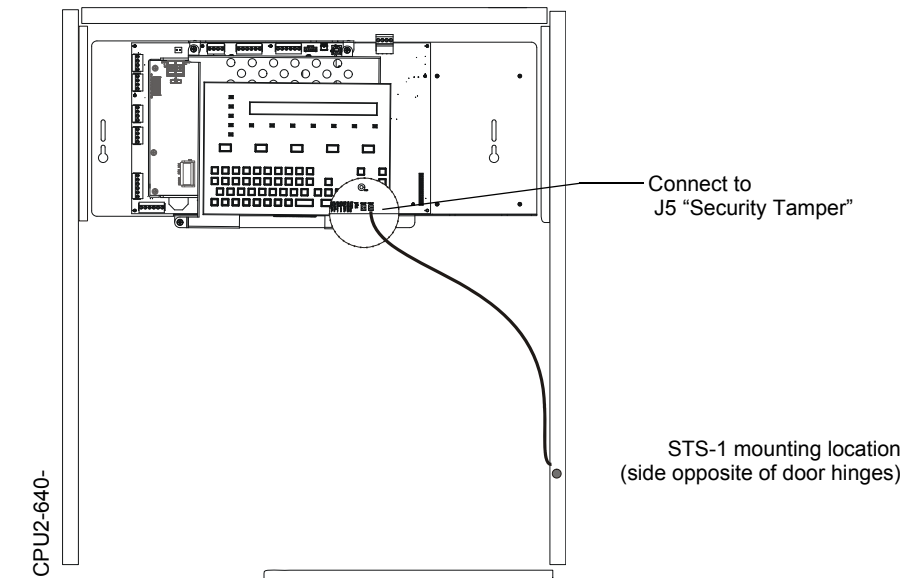

Figure 4.5 Installing the STS-1 Security Tamper Switch
To wire the cabinet with a Security Tamper Switch kit model STS-1, refer to Figure 4.5:
3. Connect the STS-1 connector to J5 (Security Tamper) on the Control Panel. (As shown in Figure 4.5, J5 is located on the circuit board, underneath the edge of KDM-R2.)